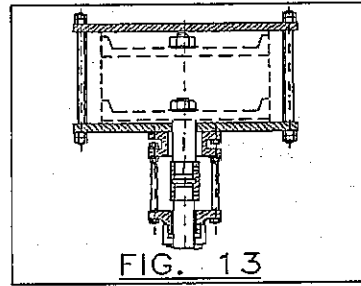

FIG. 13
- *Figure 13* ► it represents a hydraulic or pneumatic actuator.